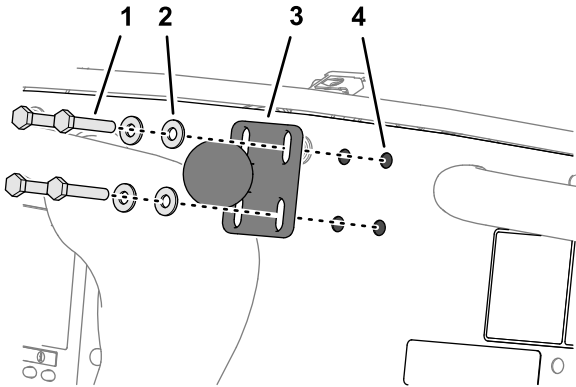

Figure 135
1. Assemble the ball-pivot mount to the dash with the 4 flange-head bolts (1/4 x 1-1/2 inch), stiffener plate, and flange locknut (1/4 inch) as shown in Figure 135.